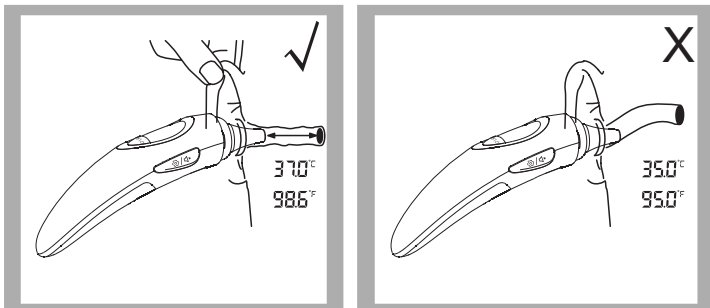

Figure 3
- Insert the probe along the ear canal as deep as possible into the ear as depicted in Figure 3. Then press the *Test Button* once to start the measurement. A long beep will sound approximately 1 second after the *Test Button* is activated. This signals the end of the process as results are displayed on the LCD screen.